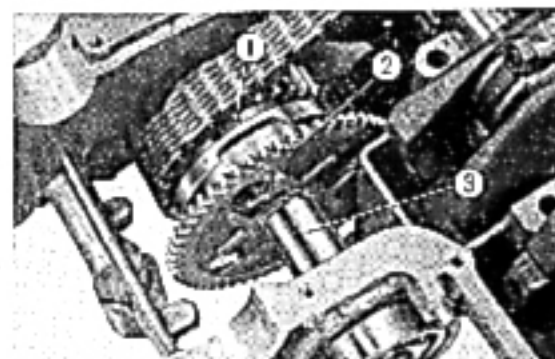

Fig. 151 ① Starting clutch
8. Unscrew ten 8 mm bolts and twelve 6 mm bolts from the lower crankcase. Loosen the 8 mm bolts in the reverse order shown in Fig. 151.
3. Measure the crankshaft journal wear. Cut a length of plasti gauge to the width of the bearing cap. Place the gauge on the bearing parallel to the crankshaft, assemble the crankshaft and torque down the crankcase in accordance with Fig. 151.
1. Remove the bearing, assemble and tighten the upper and lower crankcases. Refer to Fig. 151.
6. Place the engine upside down so as not to separate the parting surfaces by holding them by hands and install the ten 8 mm bolts. Torque the 8 mm bolts in the sequence shown in Fig. 151 to a torque of 2.3-2.5 kg-m. (16.63-18.08 lbs-ft).